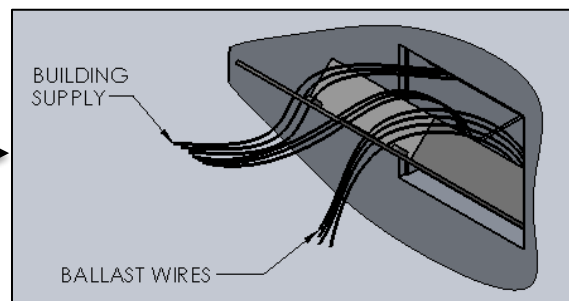

FIG. 18- DETAIL SHOWING BUILDING SUPPLY AND
10. Make BUILDING SUPPLY wire connections and tuck them into the top section of the box leaving the DRIVER WIRES out as shown in FIG. 18. Make all wire connections in the inside the junction box (by others) in accordance with the NATIONAL ELECTRICAL CODE and all applicable LOCAL AND STATE CODES.
CAUTION: Make sure **FIXTURE WIRES** from **DRIVER** as shown in FIG.18 are capped while waiting to install fixture.